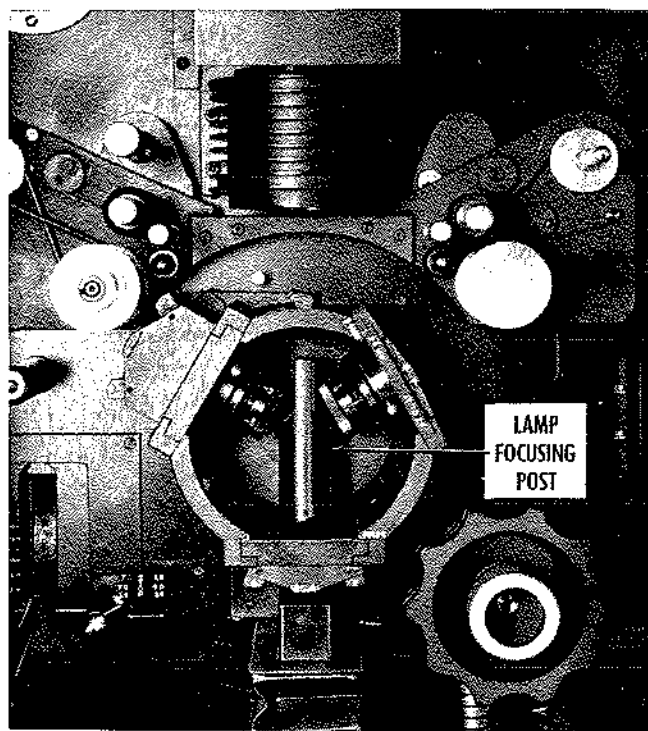

Figure 34. Lamp Focusing Post Installed
6. Install the lamp focusing post as shown in figure 34.